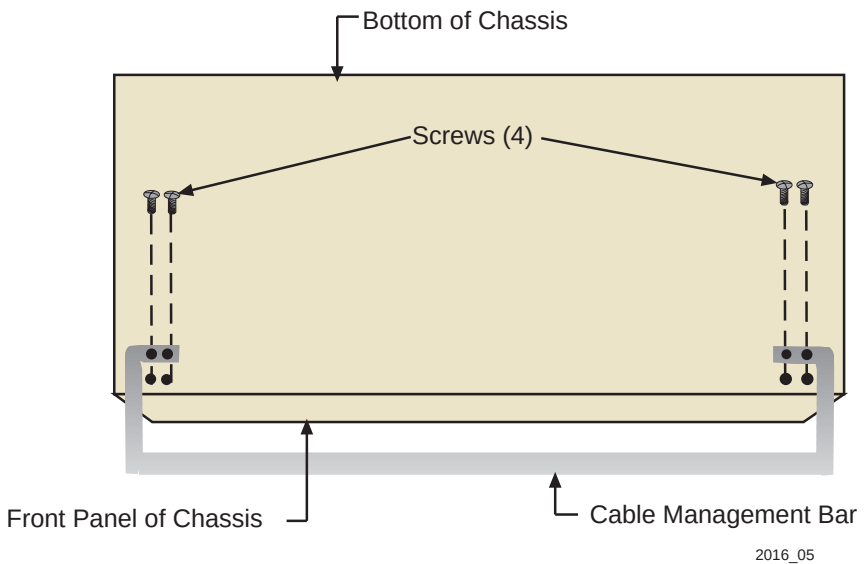

Figure 3-1 Installing the Cable Management Bar
2. Refer to Figure 3-1. Line up the two holes on each side of the cable management bar with the two holes located underneath the 6C110, near the front of the chassis.